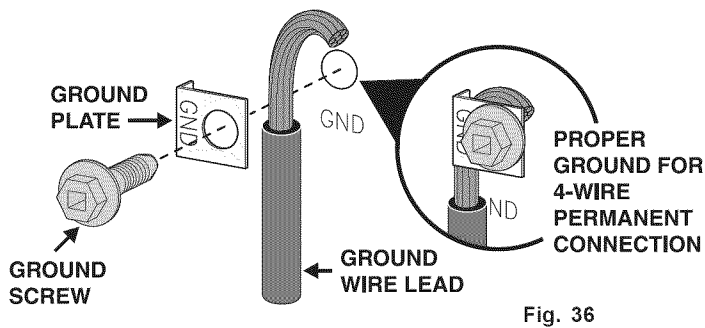

Fig. 36
- (4-Wire Permanent Connection ONLY)** Connect the ground wire lead (Green) to the frame of the appliance using the ground screw & plate as shown in Fig. 36. Be sure to install using the same hole in the frame where the ground screw was originally installed.